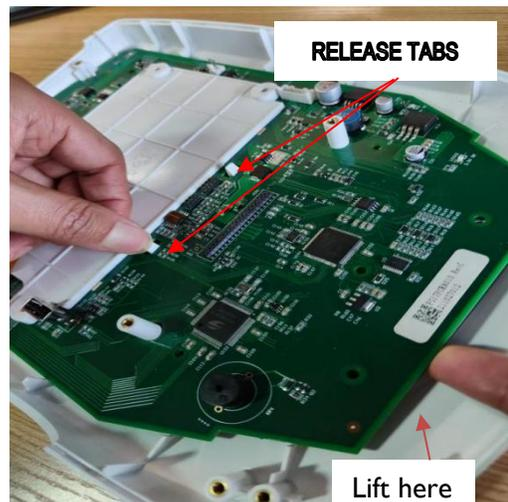

Figure 7.18
8. On the back side of the Control Board, press down and back on the four release tabs and push back through the Control Board. See Figure 7.18.